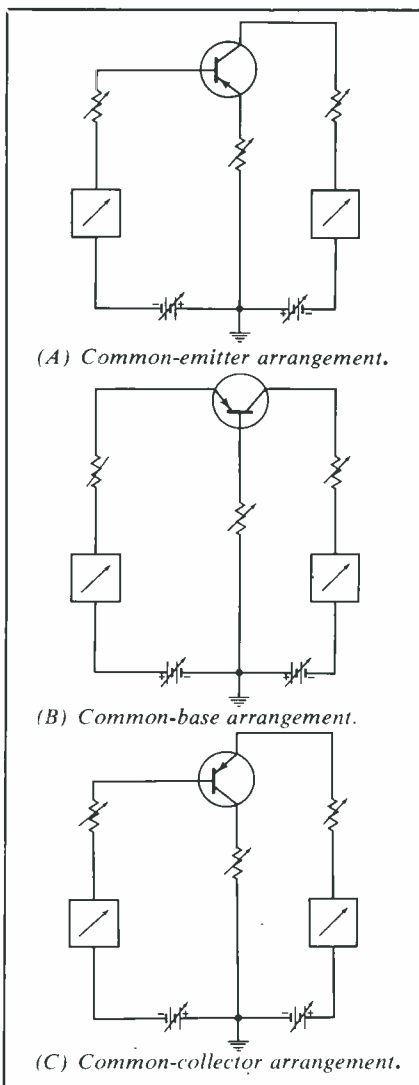

Fig. 3. Basic test circuit for determining various transistor parameters.
Some test circuits not only permit transistors to be conventionally tested for gain and leakage, but also provide for checking transistor performance in actual amplifier configurations. As illustrated in Fig. 3, one test circuit can serve in any one of the three amplifier hookups used — the common emitter, common base, and common collector ar-
The flexible circuit arrangement in Fig. 3 also permits evaluation of the AC or dynamic beta value, which is the ratio of a small change in base current to the corresponding
Another measurement which can be performed with the circuit in Fig. 3 has to do with power gain. To correctly measure the power gain of a transistor, the following conditions must be met: (1) The source resistance must equal the input resistance of the transistor, and (2) the load resistance must equal the output resistance of the transistor. Thus, the input and output resistance of the transistor under test must be determined first. This can be done as previously described. The circuit is then set up so that the proper resistance appears between emitter and base, and between base and collector. No resistance is inserted in the base circuit. The battery voltages in both the input and output circuits are then adjusted for typical operating conditions.
The first system is typified by the General Electric *Resonant Stereo* circuit in Fig. 3. Both outputs of the stereo cartridge are routed through the reverberation subchassis on their way to the main amplifier, and the delay-line unit shunts a portion of the signal path. The signals at the plates of preamp tube V1 are mixed and fed to 6BQ5 power amplifier V2, whose output is strong enough to drive the field coil of the Hammond unit. The signal generated at the opposite field coil, only about as strong as that from a tape head or magnetic cartridge, is brought up to a usable level by a two-stage amplifier employing a 7025 tube, V3. The output, adjusted in amplitude by the RESONANCE control, is applied to the right and left output jacks; here, it is mixed with undelayed signals coupled through RC networks from the plates of V1. A switch on the RESONANCE control provides a means of disabling the reverberation feature by shunting the delayed signal to ground.